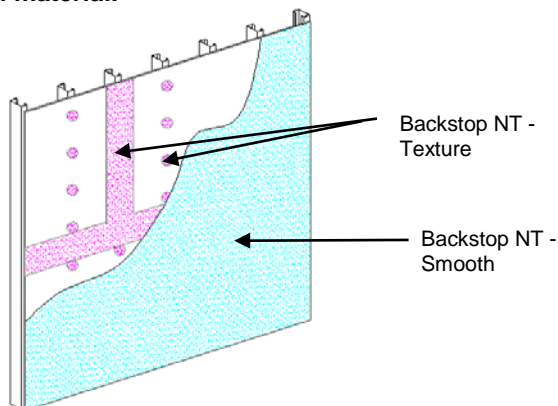

Figure 19
- a. General: Dryvit Backstop NT - Smooth can be applied using a roller or sprayed and back-rolled over the acceptable sheathing substrates. **NOTE: OSB sheathing requires that joint and fasteners be treated with Backstop NT - Texture. A minimum of two (2) coats of Backstop NT - Smooth are required for the field of the wall. Backstop NT - Texture is not recommended for application in the field of the board.**
- 2) Backstop NT - Smooth material should be applied in a uniform, continuous film at the recommended coverage rate – Figure 19. **NOTE: Sheathing substrates with a surface texture or high porosity will require additional material.**